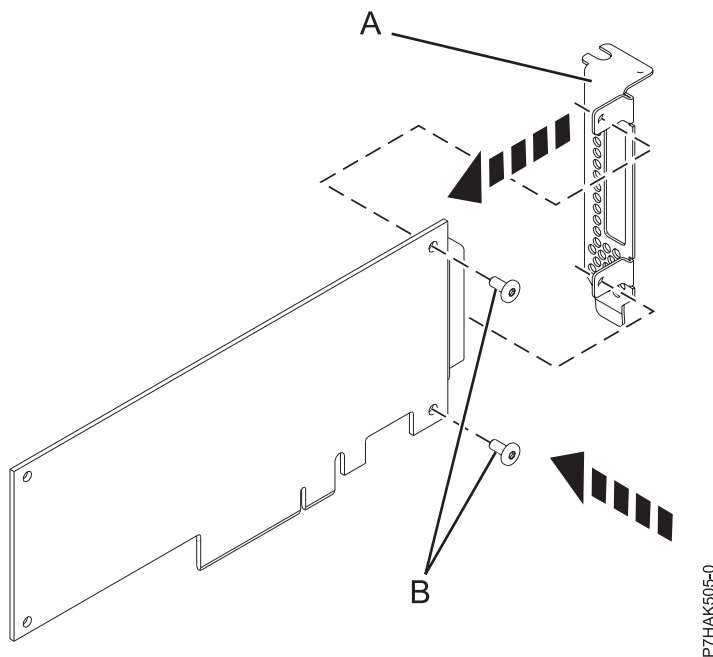

Figure 52. Attaching the low-profile tailstock to a PCIe adapter
14. Using a Phillips screwdriver and the two retaining screws **(B)**, attach the tailstock **(A)** from the failed PCIe adapter onto the new PCIe adapter, as shown in Figure 52.